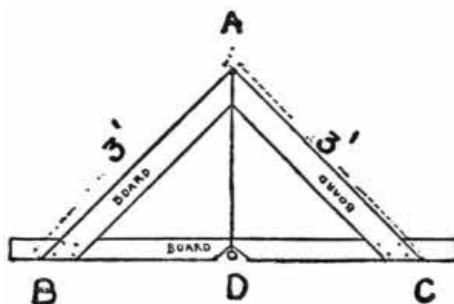

FIG. 64.
will make himself one, probably using three pieces of board, a string, and a weight, as shown in Fig. 64. The two side-pieces of wood being exact duplicates in all dimensions, the angles at the bottom are necessarily equal, and a line from the apex (A) to the centre of the bottom-piece must